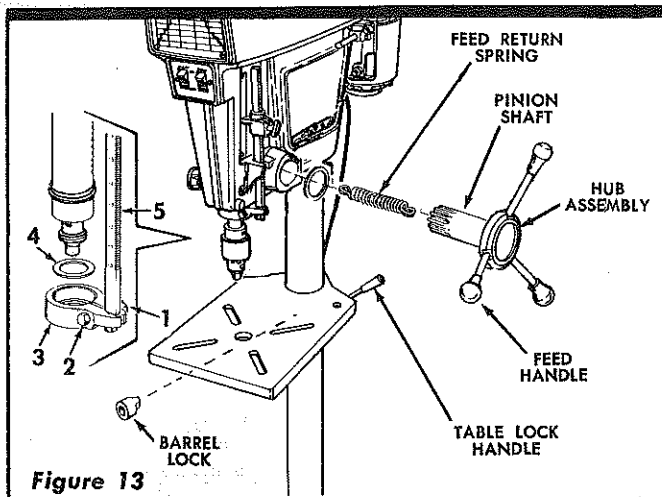

Figure 13
1. Clamp the quill with the quill lock knob; loosen the 1/4-20 feed stop collar clamping nut (1, figure 13), reposition feed stop collar (3) upward as far as it will go, then tighten the feed stop collar clamping nut (1).
2. Make sure the feed stop rod (5) is positioned properly in the guide slot of the drill press head. When the feed stop collar is removed in order to install the mortising attachment (Catalog No. 9-2460), use the washer (4, figure 13) in the mortising attachment clamping collar and eliminate spindle play as described in preceding paragraphs.
To change the locked position of table lock handle or drill press head lock handle, unscrew the handle from barrel lock and rotate barrel lock 180°. Re-insert the lock and tighten lock handle (See figure 13.)
If the automatic feed return fails to return the quill to the top of the stroke, or if the return action becomes sluggish, the feed return may be adjusted as follows: (See figure 13.)